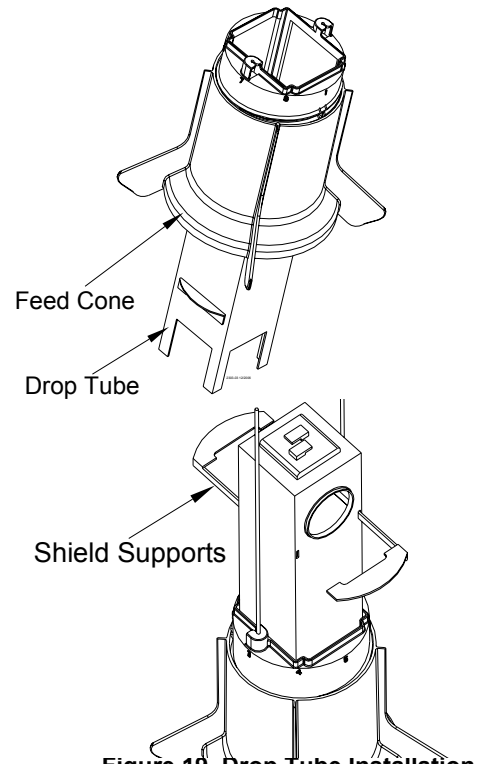

Figure 19. Drop Tube Installation
4. Insert the drop tube into the feed cone assembly, see figure 19.